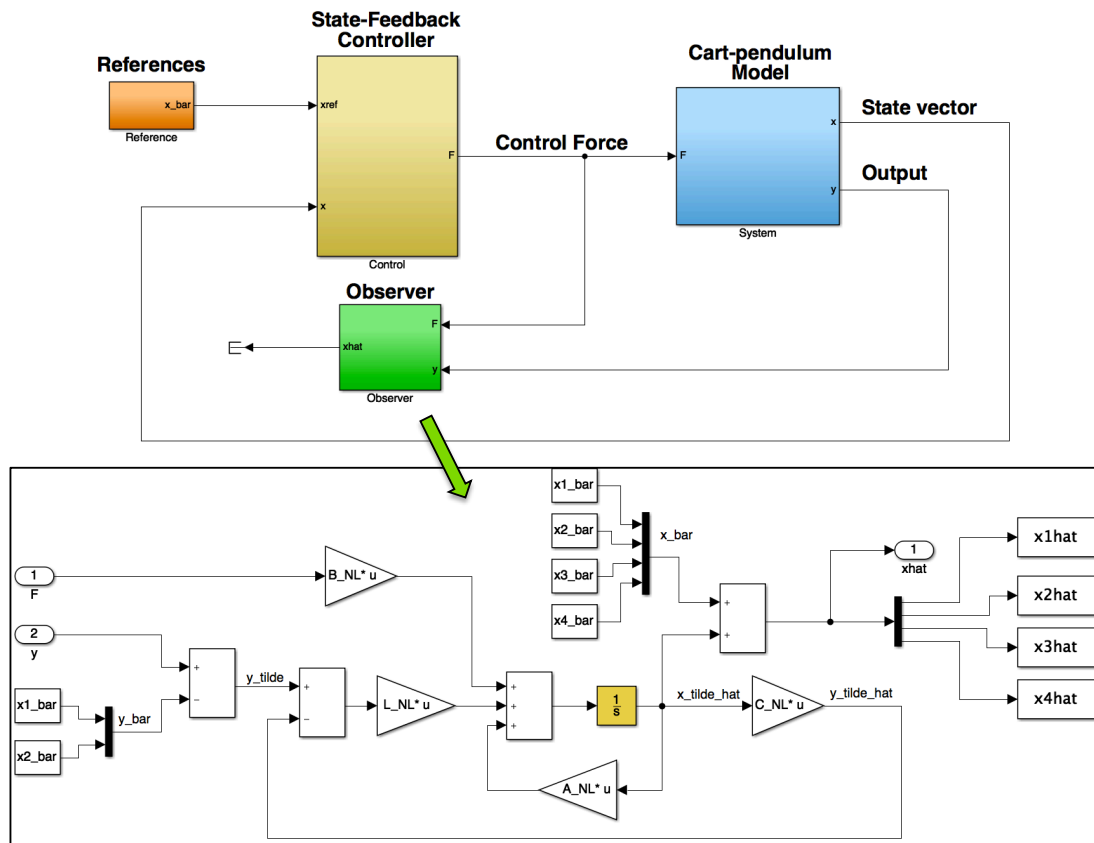

Figure 3: Nonlinear control system.
- Use a Simulink model of the nonlinear system in closed loop with the state-feedback controller created in Lab 05 (CP\_SFC\_NLin\_yourstudentnumber.slx) and add the observer. Select  $K_{SF}=K_a$ ,  $L_{NL}=L_a$ ,  $A_{NL}=A_a$ ,  $B_{NL}=B_a$  and  $C_{NL}=C_a$ . Save your model as CP\_Obs\_NLin\_yourstudentnumber.slx. An example of the Simulink model is shown in Figure 3.